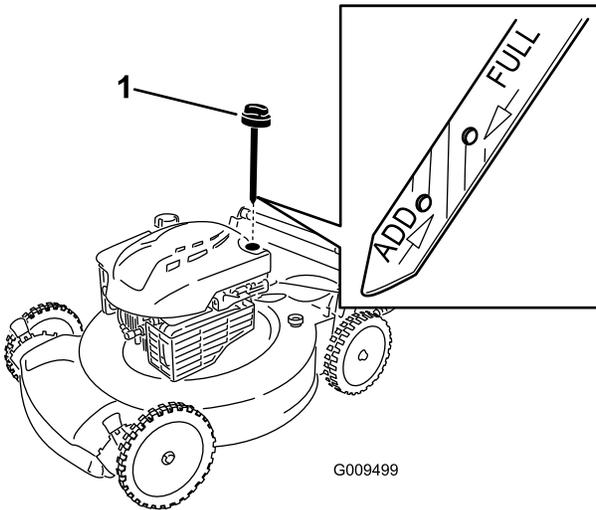

Figure 4
1. Remove the dipstick (Figure 4).
2. Slowly pour oil into the oil-fill tube until the oil level reaches the Full line on the dipstick (Figure 4). **Do not overfill.**